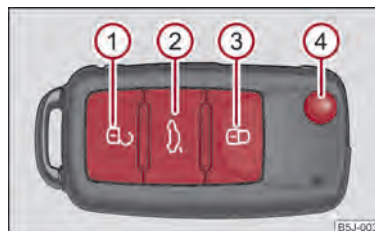

Fig. 17 Remote control key
- Press the button ① ⇒ fig. 17 for about 1 second.